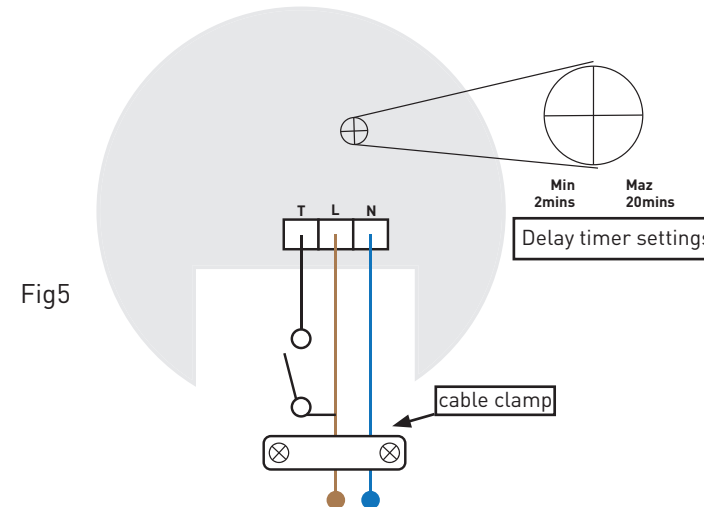

Fig5
- Connect the Live (L), Neutral (N) and switched Live (T) (see Fig 5)
- Make adjustments to the delay timer for desired setting (see Fig 5)